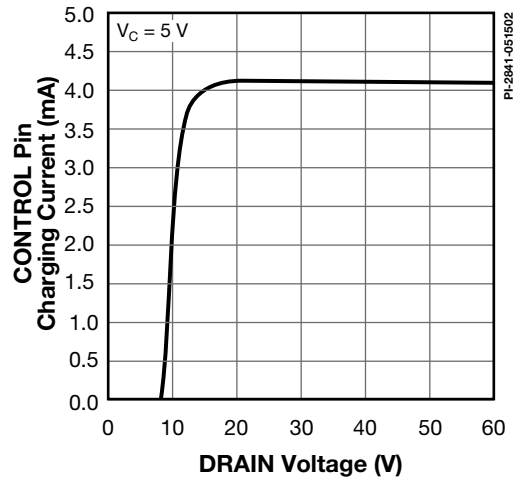

Figure 45.  $I_c$  vs. DRAIN Voltage.
- D. It is possible to start up and operate DPA-Switch at DRAIN voltages well below 16 V. However, the CONTROL pin charging current is reduced, which affects start-up time, auto-restart frequency, and auto-restart duty cycle. Refer to Figure 45, the characteristic graph on CONTROL pin charge current (IC) vs. DRAIN voltage for low voltage operation characteristics.